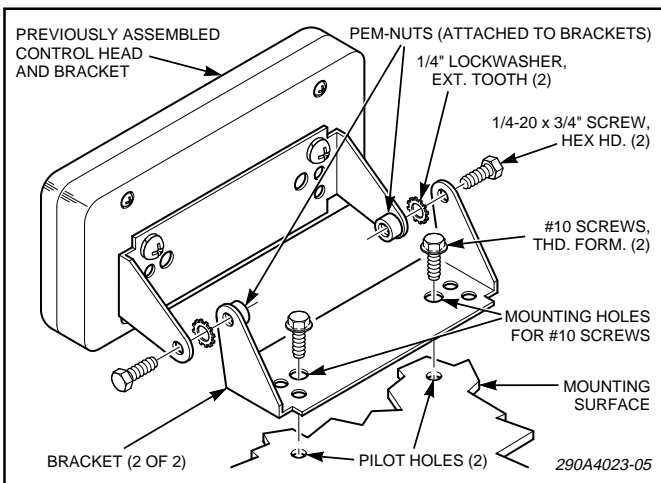

Figure 3-4. Control Head and Bracket Installation.
A. Assemble a bracket to the control head using the 6-32 x 1/4 screws and #6 lockwashers. Assemble the other bracket to the control head/bracket assembly using the 1/4-20 x 3/4 hex head screws and 1/4" lockwashers as shown in figure 3-4.
D. Secure the mounting bracket to the mounting surface with the #10 thread-forming screws as shown in figure 3-4.